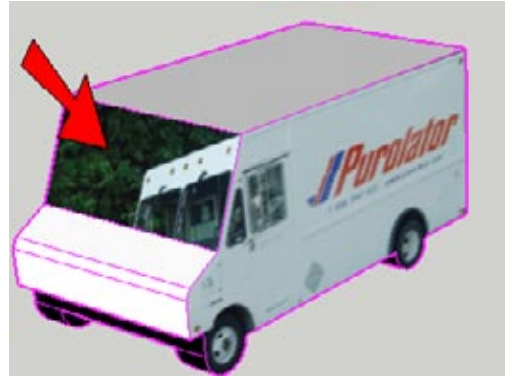

Figure 9-47
- To paint the front of the truck, sample the material on the side and click the front face (Figure 9-47).